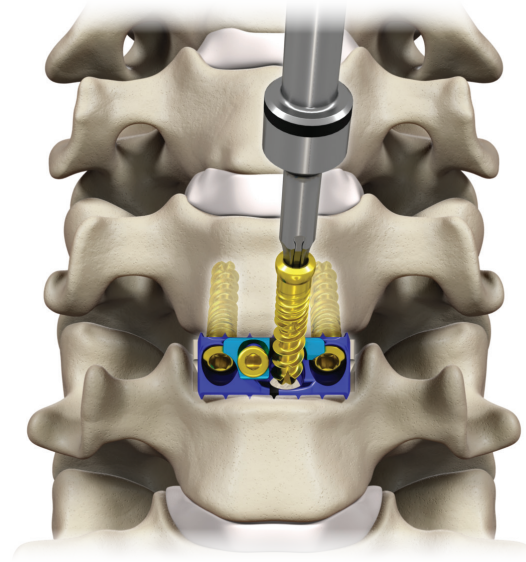

Figure 33
- Remove the awl/drill and guide. Load the desired screw onto the 2.0 mm hex driver. Insert the screw through the midline screw hole, advancing the screw until the screw head contacts the plate to provisionally stabilize the implant. Ensure that the driver is on axis to the prepared screw trajectory during screw insertion and final tightening (Figure 33).